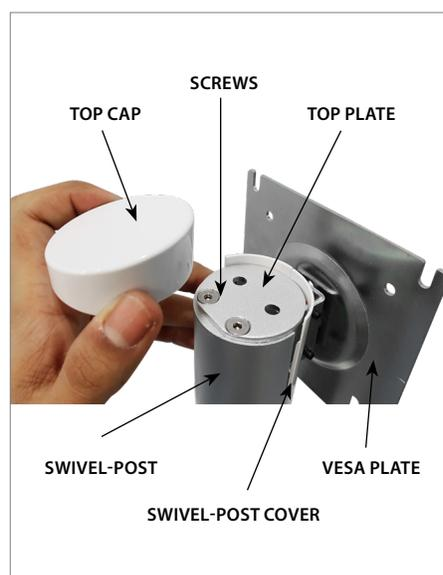

Figure 43
2. Remove the **CAP** on the top of the **SWIVEL-POST** to reveal the 2x **SCREWS**. Use a Philips head screwdriver (#2) to remove the 2x **SCREWS** (Figure 43). Remove the **SWIVEL-POST COVER**.